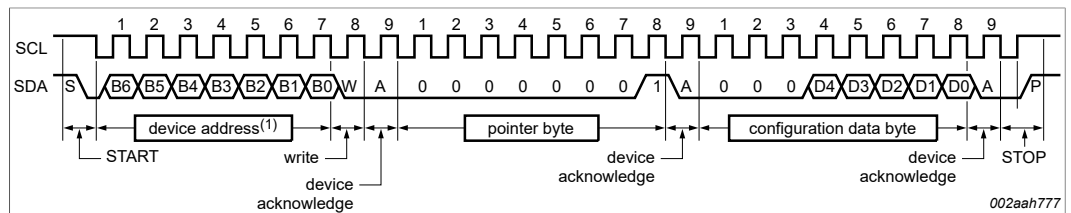
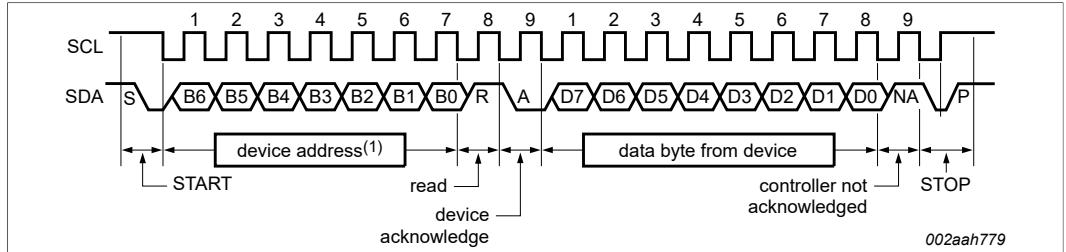
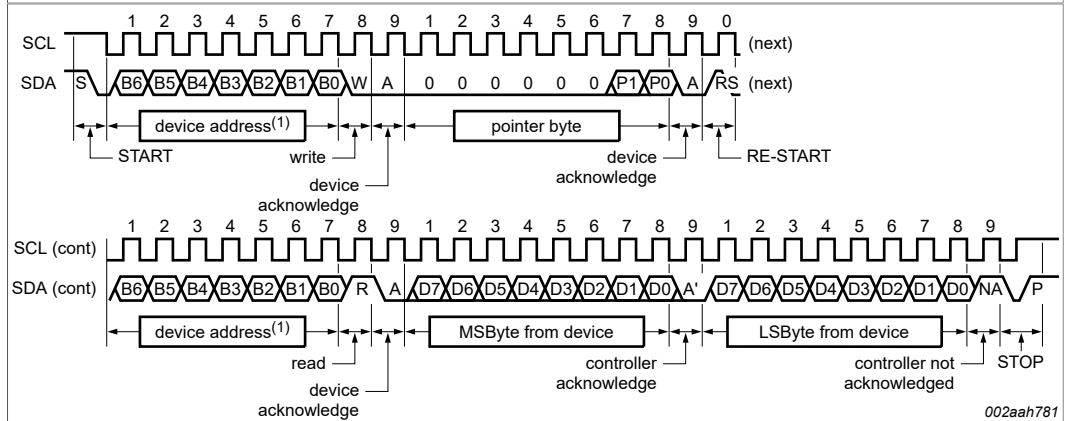
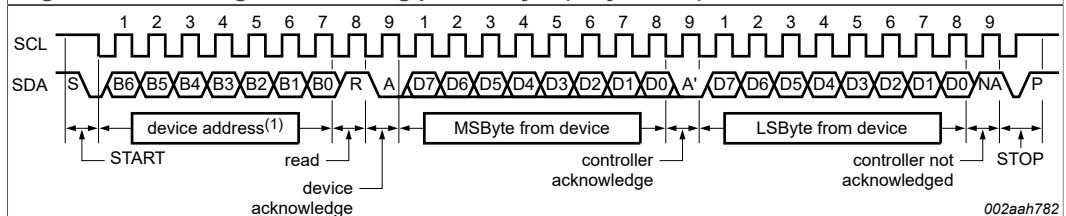

Figure 17. Write configuration register (1-byte data)
Figure 19. Read configuration or temp register with preset pointer (1-byte data)
Figure 21. Read register including pointer byte (2-byte data)
Figure 22. Read register with preset pointer (2-byte data)
The communication between the host and the device must strictly follow the rules as defined by the I2C-bus management. The protocols for device register read/write operations are illustrated in Figure 17 to Figure 22 together with the following definitions:
14. For best temperature accuracy both temperature bytes should be read as shown in Figure 21 and Figure 22 but for a quick less accurate check/reduce bus transmission than only one byte, the MSByte, must be read as shown in Figure 19.